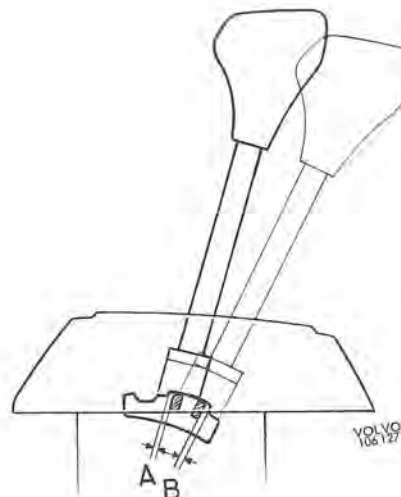

Fig. 4-71. Adjusting selector controls
2. Adjust the length of the shift rod so that there is a small gap (min. 1 mm=0.04", see B, Fig. 4-71) between the selector lever inhibitor and selector gate when the rod is connected to the lever on the transmission.